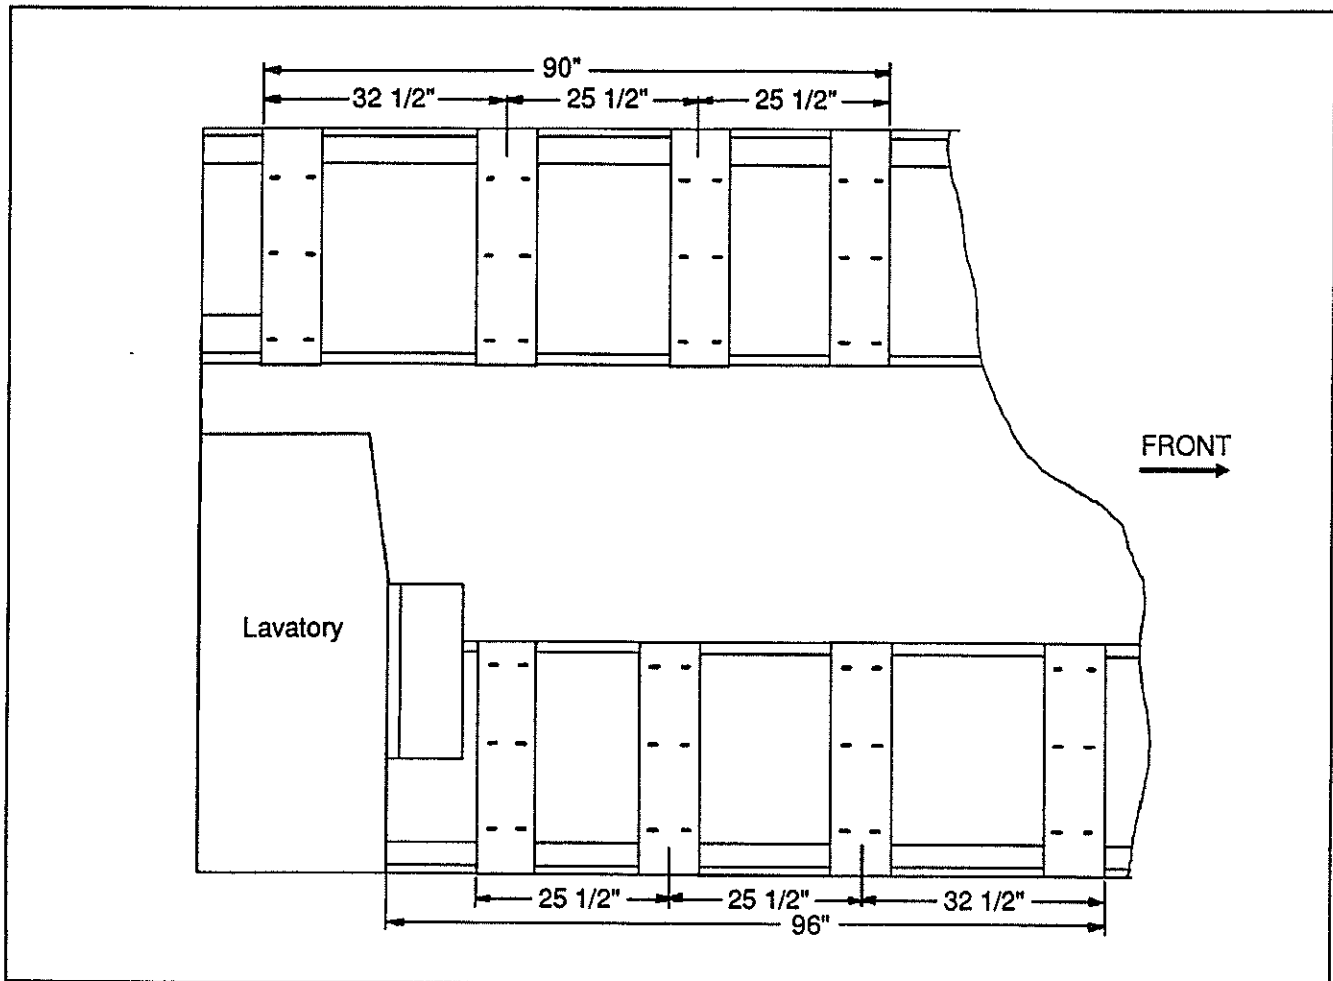

Figure 1 - Seat module supports lay-out (Top view)
6. Insert (8) floor rail fasteners in each rail opening.
7. Referring to measures given in figure 1, position approximately the (8) seat module supports.